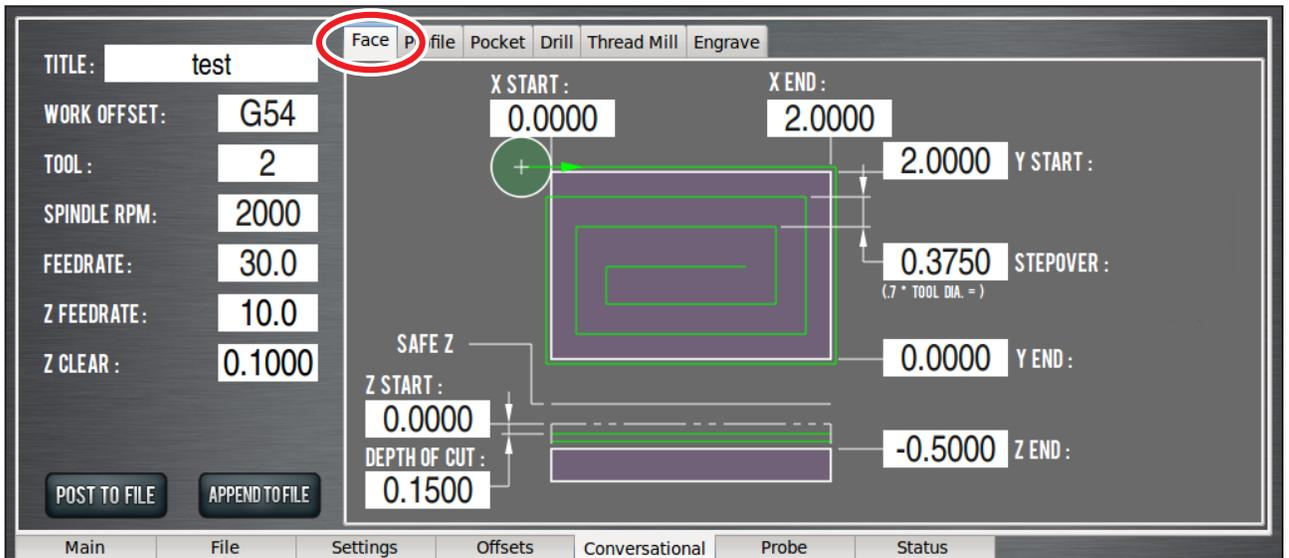

Figure 6.27
*Face* is generally used for cutting an accurate top surface from rough stock, cutting successive XY-planes over a Z range (see **Figure 6.27**).
The *Circular* tab creates a specific hole pattern of evenly spaced holes around a circumference, also known as a bolt pattern (see **Figure 6.27**). As with the *Pattern* tab, all features and corresponding DROs, like *Spot* and *Peck*, are retained.